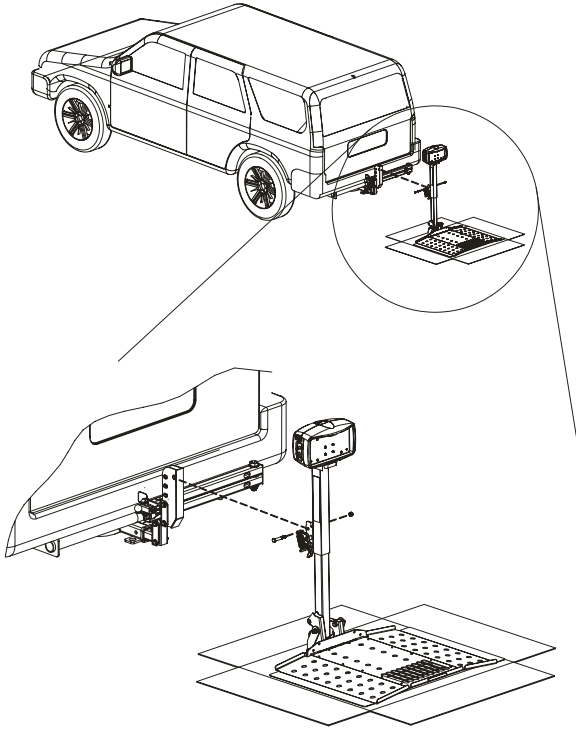

Figure 4-12
4. Stand the lift up, use the switch to line up the PB adjustable assembly or swing away with the lift and fasten in place. The hex bolt should be inserted from the drivers side. *See Figure 4-12.*